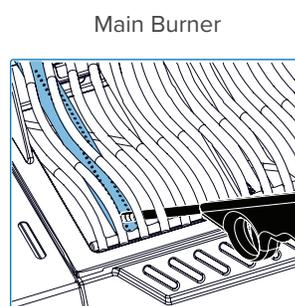

Fig. 12
5. If the pilot and burner do not light within 5 seconds, turn the control knob clockwise to the OFF position. Wait 5 minutes for the gas to dissipate. Repeat steps 2 and 3, or light the burner using “Alternative Ignition Instructions (see Fig. 12&13).
3. Turn the corresponding burner knob counter clockwise to the HIGH position until it lights (see Fig. 12).